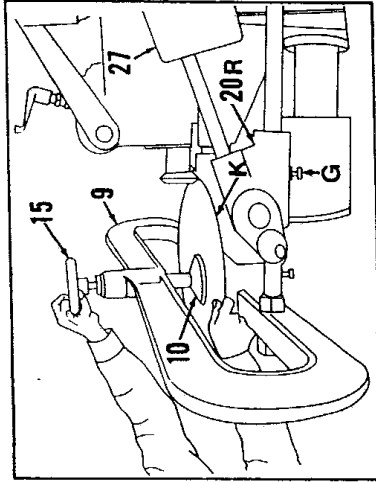

Fig. 11
1. Adjust flanging attachment (9) (Fig. 11) in or out to correspond with inside radius of flange to be made. This is done by loosening set screws (G) on pivot sockets (20R) & (20L). Retighten set screws after adjustment. Remove or adjust weights (27) as needed to counterbalance flanging attachment (9).